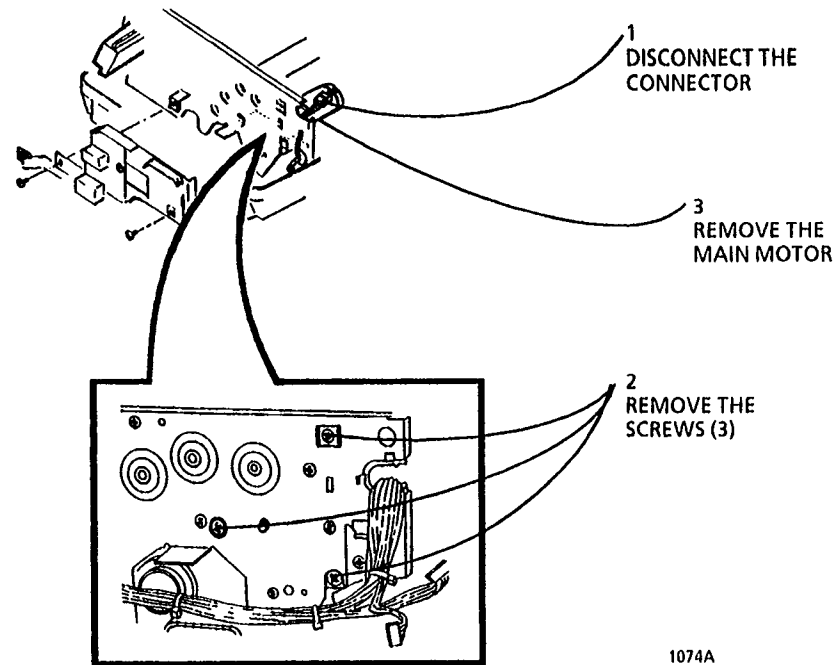

Figure 2. Removing the Main Motor (MOT1)
4. (Figure 2): Remove the Main Motor.